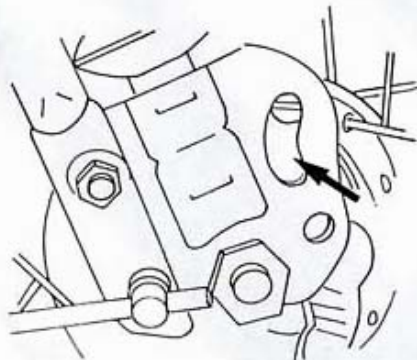

Fig. 6
- Make sure the lug on the brake backing plate fits into the fork slot (right hand) fig. 6.